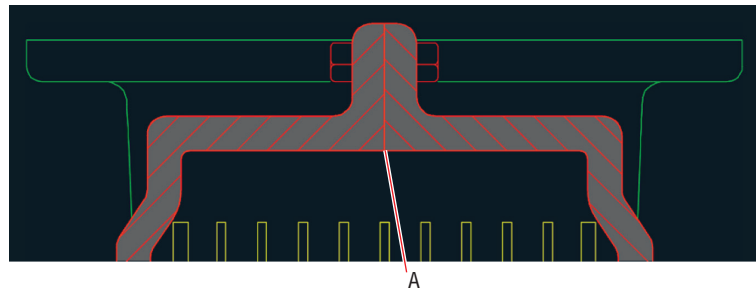

FIGURE 8.16 Changing the angle and setting the origin of an individual hatch pattern object
3. Select the upper-right hatch pattern, type 90 in the Angle text box, and press the Tab key. Click the Set Origin button and then click point A shown in Figure 8.16. Press Esc to exit the ribbon's Hatch Editor tab.
4. Select the hatch pattern on the left side, click the Set Origin button, click point A shown in Figure 8.16, and press Esc. The outer patterns on the left and right both meet symmetrically at point A.